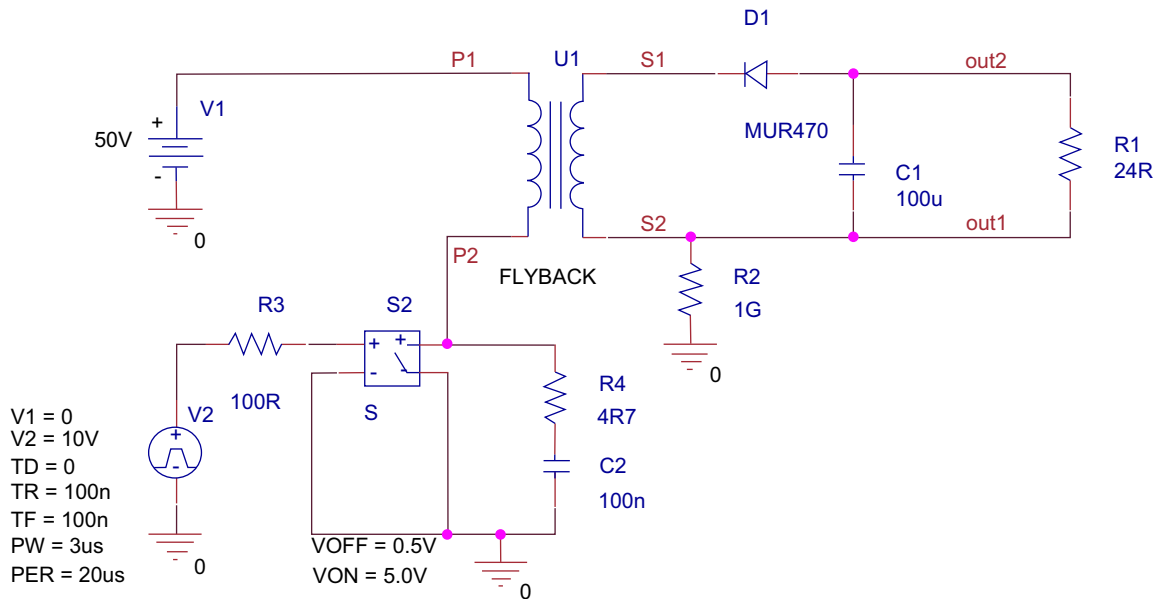

FIGURE 21.26
The flyback converter will be tested using the circuit in Figure 21.26.
- Draw the circuit in Figure 21.26. The voltage-controlled switch is from the analog library, the pulse source is from the source library and the diode is from the diode library. In the Project Manager add the newly created library for the transformer by selecting the library folder, **rmb > Add File** and browse to the **Flyback.olb** library. The flyback.olb library will appear in the Place Part menu. Place the transformer as shown in Figure 21.26.